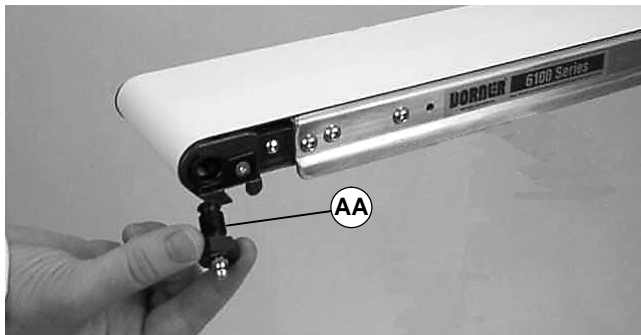

Figure 18
2. Install Dorner greasing adapter (part # 200046M) (AA of Figure 18). Make sure the adapter shoulder is seated against the conveyor tail plate.